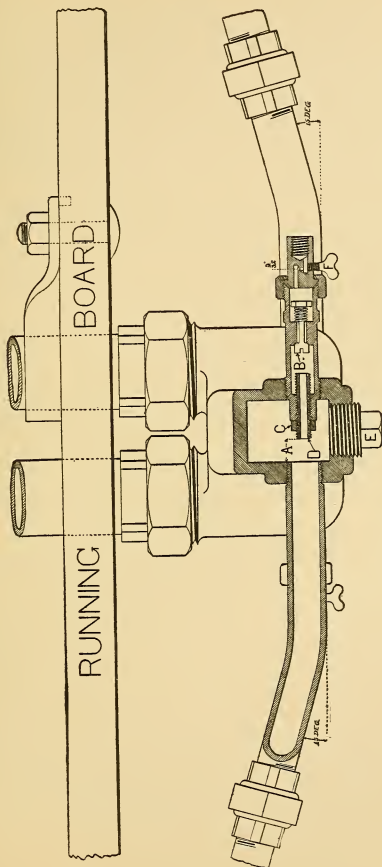

FIG. 49.—DETAIL OF LEACH "D" DOUBLE TRAP, SHOWING EXTENSION AIR NOZZLE.
A. To regulate the amount of sand delivered, increase or decrease distance "A" (Fig. 49) by loosening jamb nut "C," and moving adjusting tube "D," in or out. The greater the clearance "A," the greater the sand delivery. Care should be taken to have nozzles on opposite sides of engine adjusted alike.
*Q. For what purpose is small thumb screw "F" (Fig. 49) used with the Leach air nozzle?*
*Q. What is the object of placing small check valve "B" (Fig. 49) between the sand trap and air choke of the Leach air nozzle?*